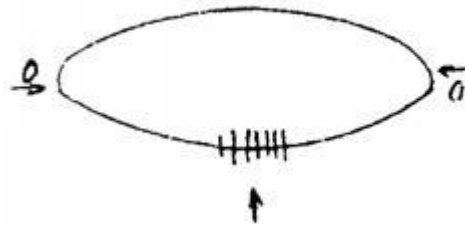
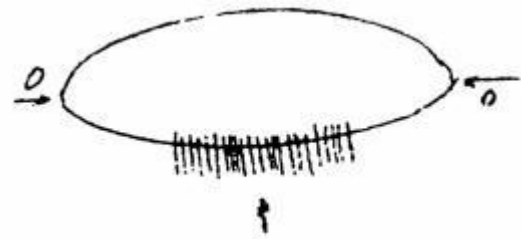

Fig. 8a
Fig. 8b
(4) External tip corona (see Figure 8a), waveform characteristics: the initial discharge only occurs in one and a half cycles of the test voltage, and is symmetrically distributed on both sides of the peak value. When the test voltage increases, the number of discharge pulses increases sharply, but the amplitude remains unchanged and extends to both sides (as shown in Fig. 8b). Cause: high voltage tip or edge discharge in air. If the discharge occurs in the negative half cycle, it indicates that the tip is at high voltage; if the discharge occurs in the positive half cycle, the tip is at the ground potential.